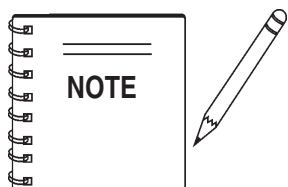

**Figure 32. ON/OFF Switch**
5. Turn the Ignition Switch to the ON position. (Figure 32.)